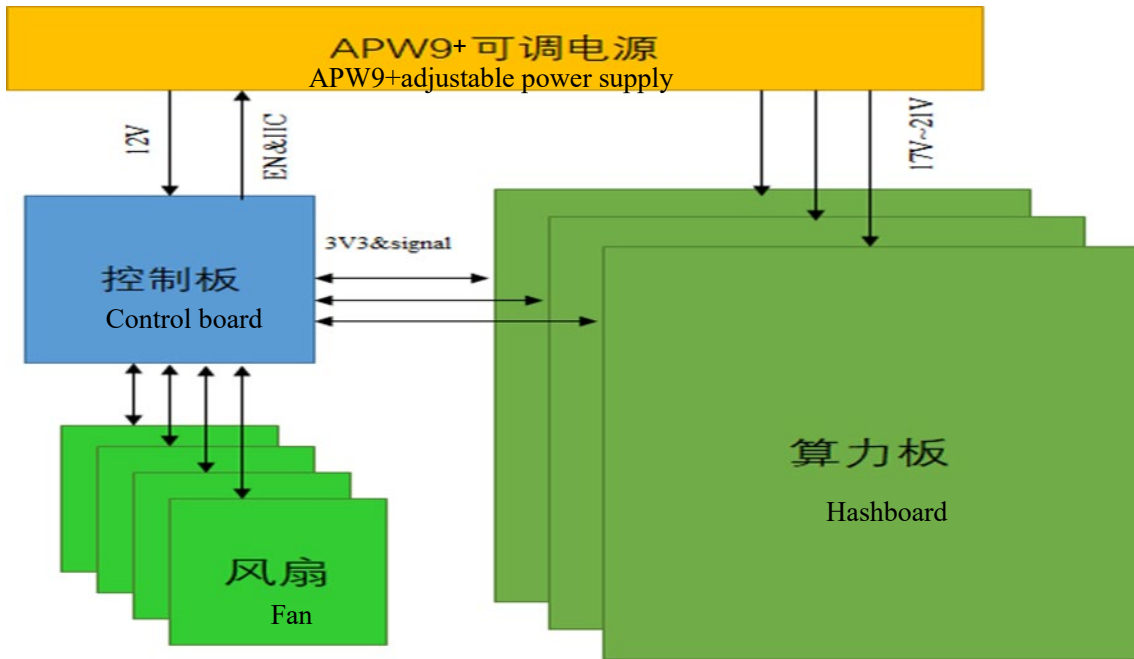

Figure 4-4
1. The machine is mainly composed of 3 hashboards, 1 control board, APW9 + power supply, and 4 cooling fans, as shown in Figure 4-4.